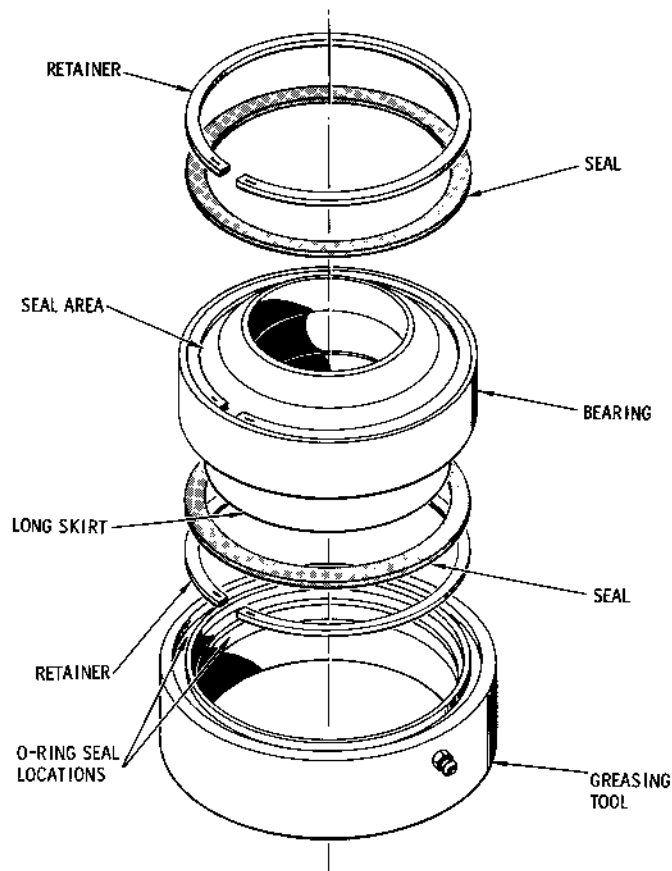

Figure 2. Regreasing tool and swashplate bearing assembly
- b. Carefully remove seal retainers (snap rings) and bearing seals. Use a thin blade screwdriver or equivalent to remove seals. (See Figure 2.)